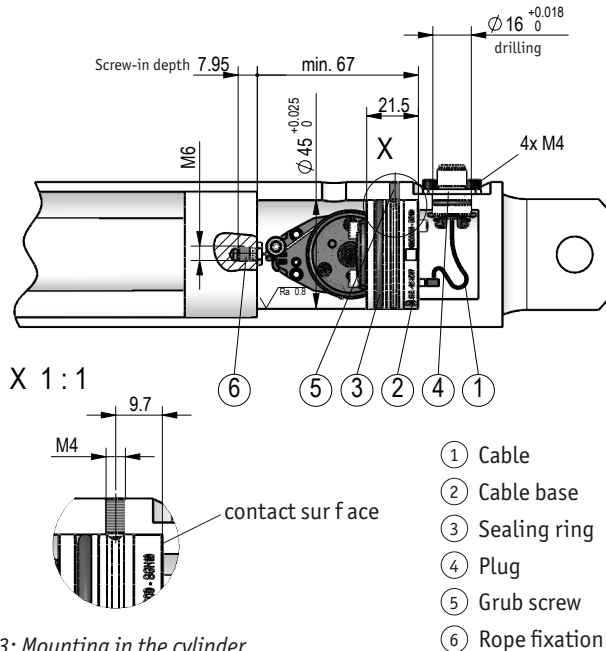

Fig. 3: Mounting in the cylinder
Mounting (Fig. 3):
1. Plug the cable ① without flange enclosures on the SGH10. When installing, the cable ① (e.g. KV1H) should be directed to the cable outlet from the bottom part of the cylinder.
2. Cautiously press the SGH10 with greased sealing ring ③ into the bottom part of the cylinder. Take care that the plug insert ④ and the cable won't be pinched, but rather that the plug insert be pulled out-side through the plug outlet on the bottom part of the cylinder. Join the plug insert with the flange enclosures incl. greased O-ring and screw it 4x at the intended position. The axial securing can be done with a threaded pin ⑤ as shown in fig. 3. Tighten the threaded pin slightly (approx. 0.5Nm) and then turn back again approx. 0.5 turns.
For detailed information on installation refer to chapter 4.1 (Fig. 3)